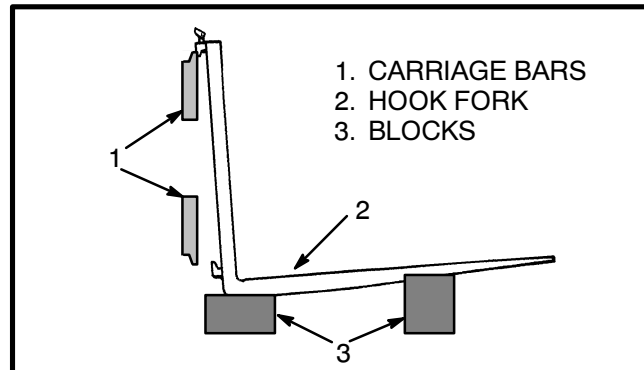

FIGURE 11. REMOVE A HOOK FORK
The identification of a fork is how the fork is connected to the carriage. The **H3.50-5.50XM (H70-120XM)** series of lift trucks use only hook forks. See FIGURE 11.
### **Forks, Removal And Installation (See FIGURE 11.)**
**Hook Fork (Removal).** Slide a hook fork to the fork removal notch on the carriage. See FIGURE 12. Lower the fork onto blocks so that the bottom hook of the fork moves through the fork removal notch. See FIGURE 11. Lower the carriage further so that the top hook of the fork is disengaged from the top carriage bar. Move the carriage away from the fork, or use a lifting device to move the fork away from the carriage.